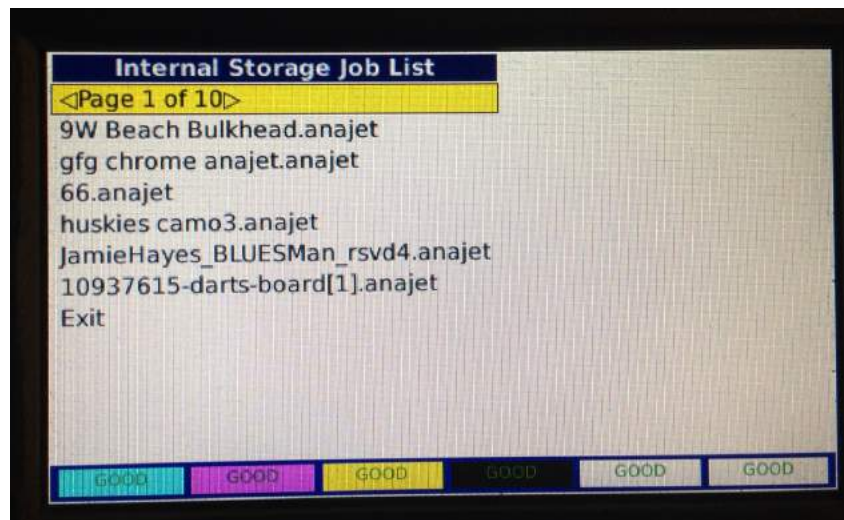

Figure 5.3r: Select Job From Internal Storage
- A file that has been previously been sent directly to the printer can be retrieved from the printer's Internal Storage for reprinting. press the <JOBS> button and select **Select Job From Internal Storage**. You can now scroll through all of the print jobs and select the file you want to print and press <ENTER> (Figure 5.3r). The specific job file will come up in the display, adjust the **Copies to Print** and then press the <PRINT> button to print the print job